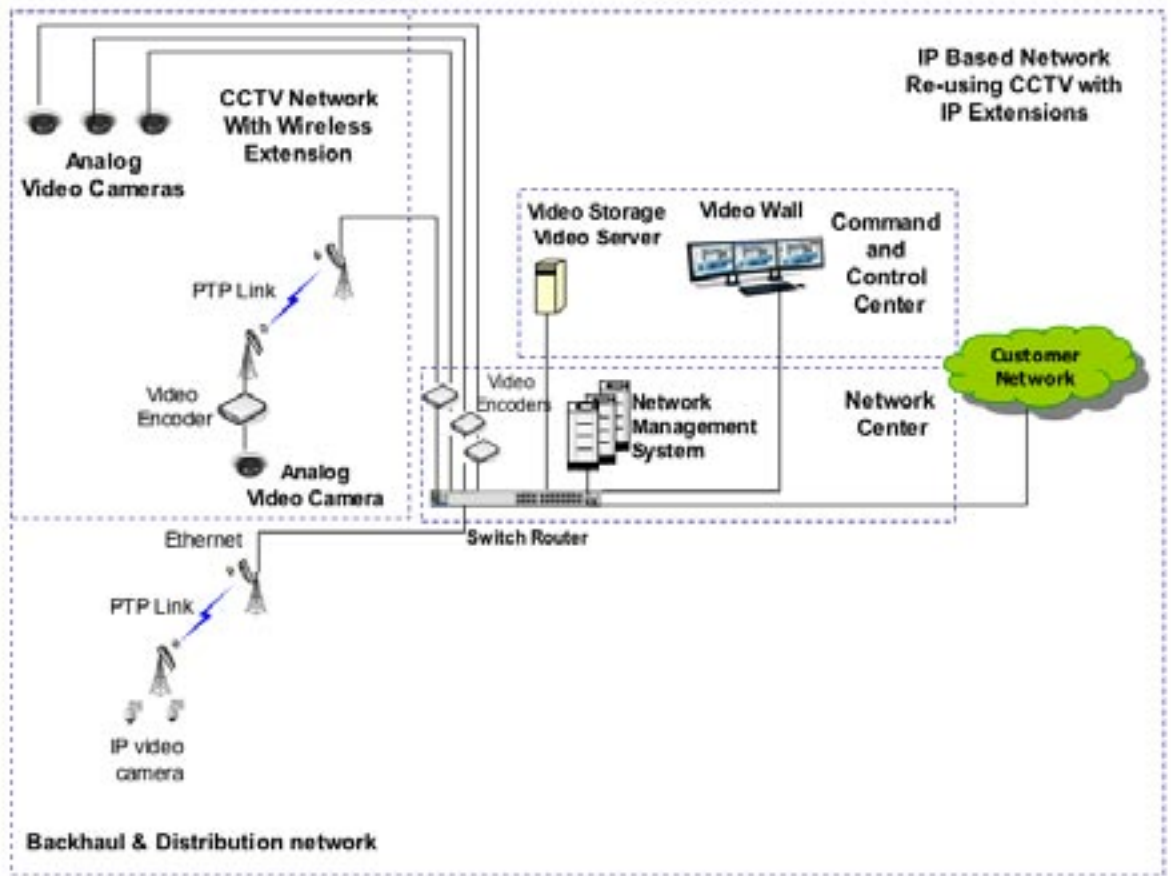

Figure 6. Wireless Point-to-Point Extension to New Location
Wireless networks can be used to create connectivity for a distribution network by using PMP APs that provide wireless connectivity to a large number of Subscriber Modules (SM) distributed throughout a geographic location. In addition, PTP and PMP modules can be combined to meet the throughput and range requirements of the network coverage area. In general, network operators can design networks with outstanding performance parameters, including throughput from 7 Mbps to 21 Mbps and a range of up to 15 miles. Figures 6 and 7 depict wireless network extensions using PTP and PMP modules.